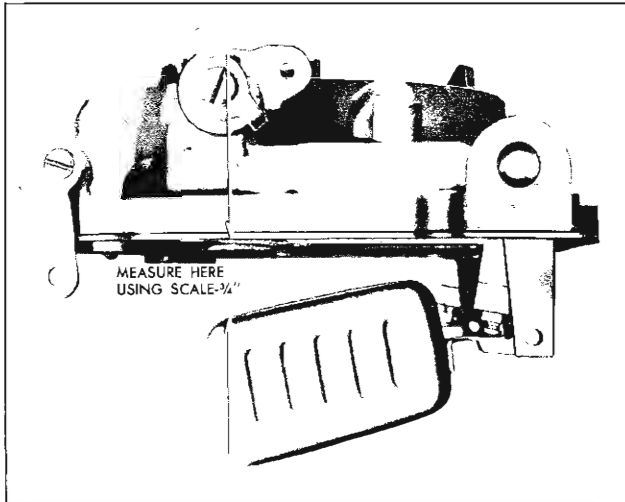

Fig. 75—Adjusting Float Drop
- Adjust Float Drop. With air horn held in upright position, measure vertical distance from air horn gasket to outer end of each float using a scale. Bend float arm tang as required to obtain $\frac{3}{4}$ " measurement (fig. 75).